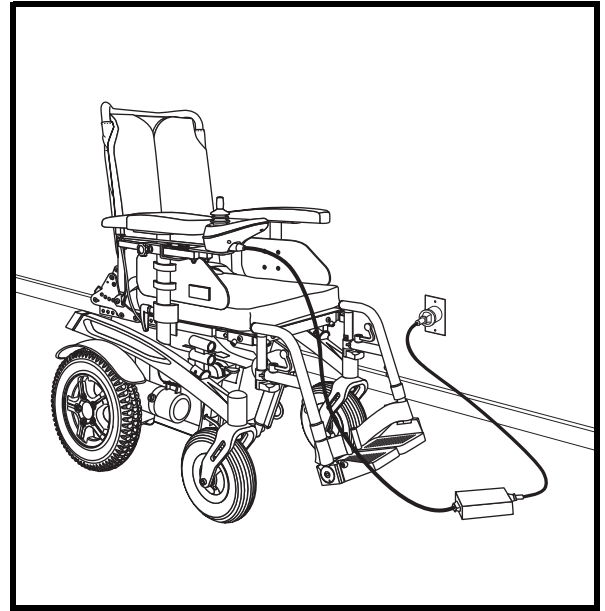

Figure 26. Battery Charging
3. Plug the off-board charger into the off-board charger/programming socket on the controller. **See figure 26.**